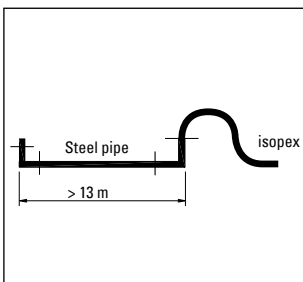

fig. 5
- When connecting isopex to steel pipes > 13 m, follow the rules shown in fig. 5.